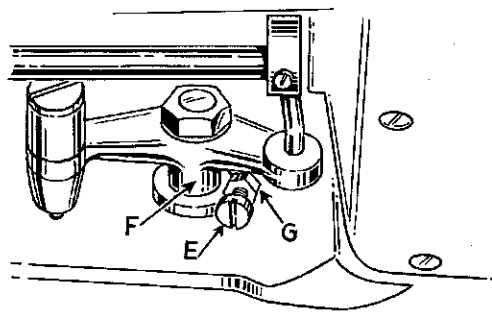

Fig. 9
This is accomplished by turning the machine over on its side, loosening lock nut (G, Fig. 9) and relocating the stop screw (E) on the lifter lever bell crank (F). By turning the stop screw counterclockwise, the presser bar connection is brought closer to the hand lifter. Turn the stop screw to secure desired $\frac{1}{16}$ inch space. Tighten lock nut (G) to lock screw in position.